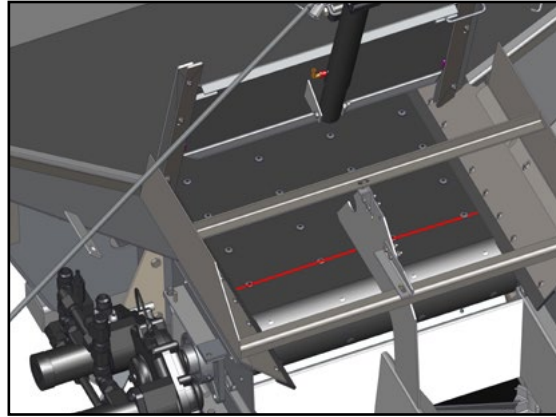

Figure 9
10. Figure 9 - Center the front of the Hillside Divider by measuring from the divider panel to the Chain Shield rubber on each side. Measurements should be equal.